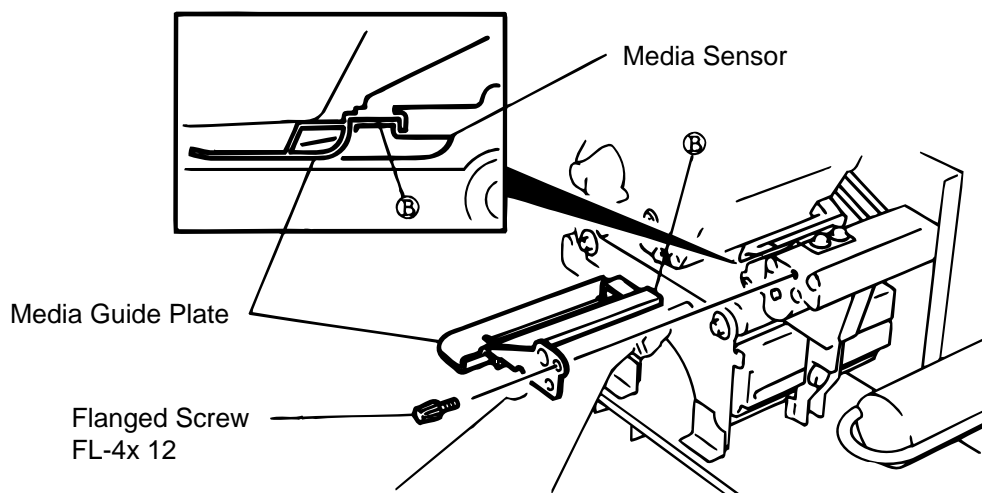

Fig. 9-2
3. Turn the head lever to position ③, then release the ribbon shaft holder plate.
4. Remove the flanged screw to detach the media guide plate. (See Fig. 9-2.)
8. Place the portion ④ of the media guide plate on the media sensor. Secure the media guide plate with the flanged screw.